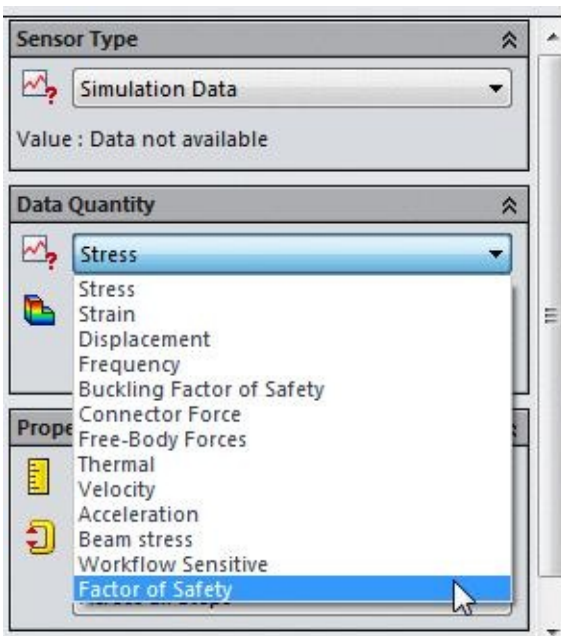

Figure-24. Factor of safety option
- Click on the **Results** drop-down in the **Data Quantity** rollout and select the **Factor of Safety** option; refer to Figure-24.